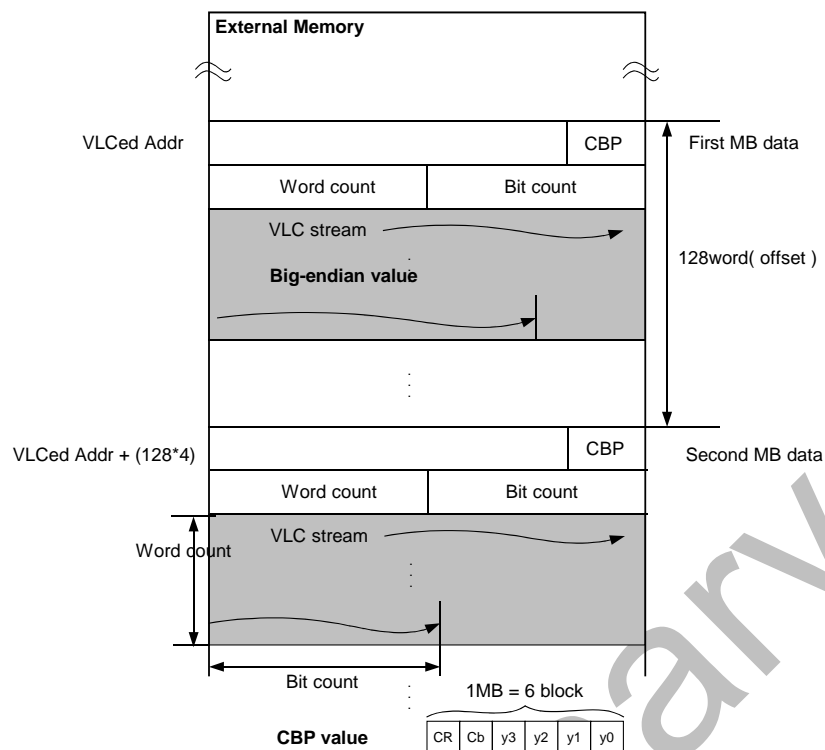

Figure 26-4 VLC output bit stream format
- VLC output save external memory on 1 word value. Not coded information, from MSB to LSB data. {word count(16bit), bit count(16bit) }, VLC coeff. ordered save.VLX output in VLC mode are CBP information, Word count, Bit count VLCed stream data. Figure 26-4 show the output format in VLC mode.
- One MB has six block so CBP information is six bit output. 0 bit is y0 block and 5 bit is Cr block. Figure 26-4 show the CBP bit information.